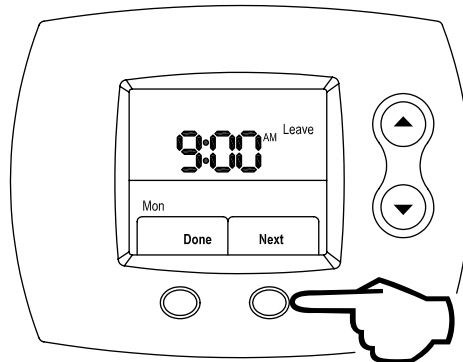

Figure 85
Step 11: Press the **RIGHT** (Next) button to lock in the Leave period start time, which is shown in Figure 85.